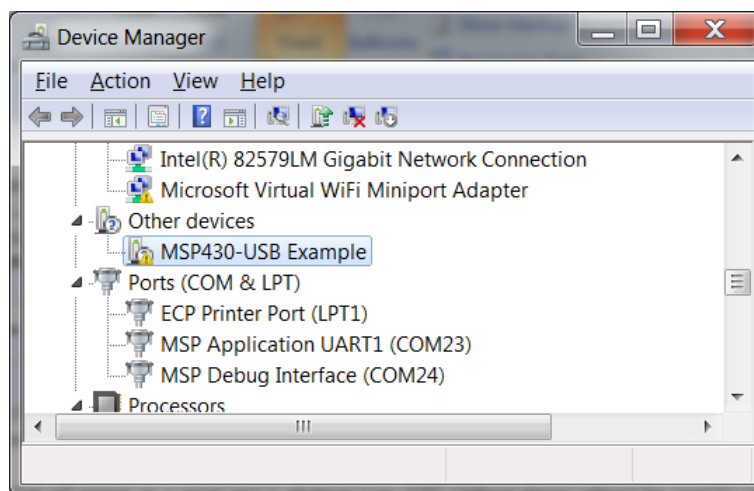

Figure 24. Device Manager Showing CDC Driver Not Installed
1. To install the INF file, launch the Device Manager. The USB CDC examples appear in the Device Manager as *MSP430-USB Example*. If a driver is not properly installed, it appears with a yellow exclamation point on its icon, sometimes referred to as a *yellow bang*. Right-click on that item (see Figure 24).